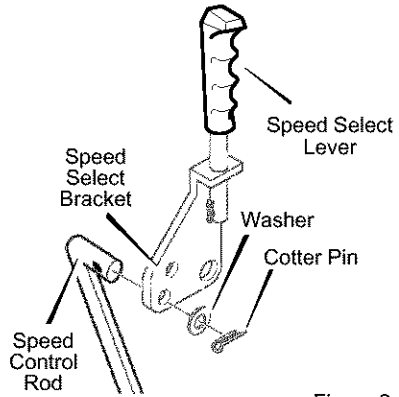

Figure 9
2. Attach the **speed control rod (end with 90° bend)** to the **speed select bracket** with **washer and cotter pin**. See Figure 9.